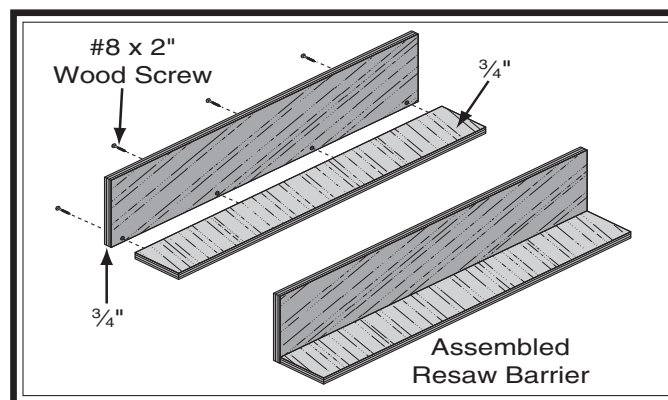

Figure 80. Example of resaw barrier.
3. Glue end of 3" board, clamp boards at a 90° angle with larger board in vertical position, as shown in **Figure 80**, then fasten together with wood screws.